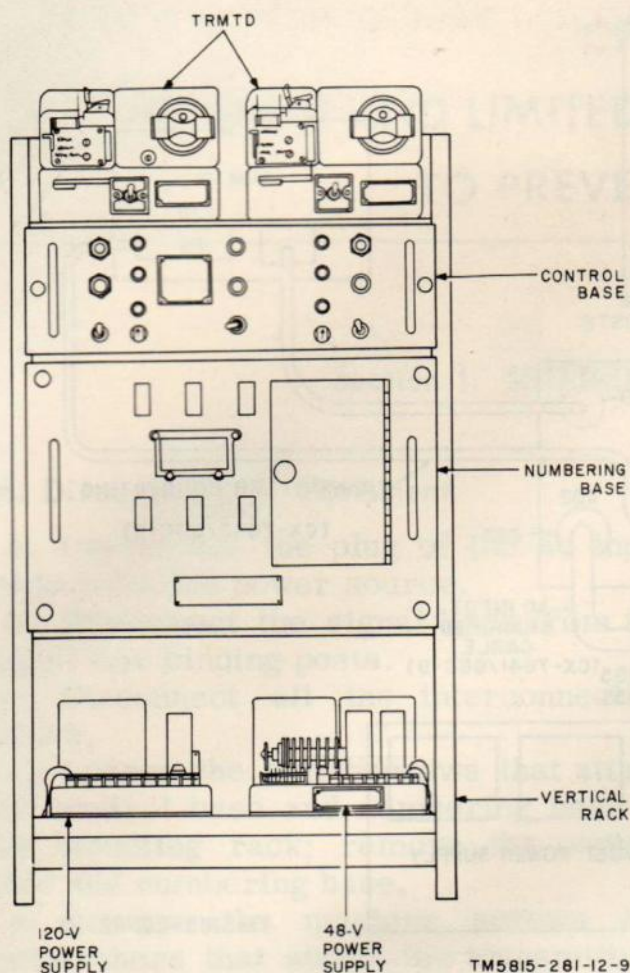

Figure 9. Typical distributor set installation.
18. Assembly of Components (fig. 9)